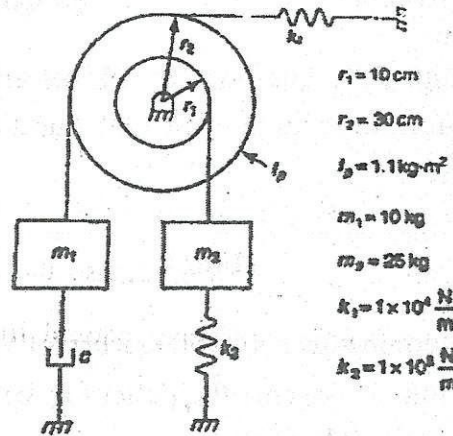

Fig. 2
2. For what value of c is the damping ratio of the system as shown in Fig. 2 equals to 1.25 ? 15